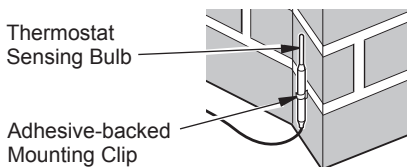
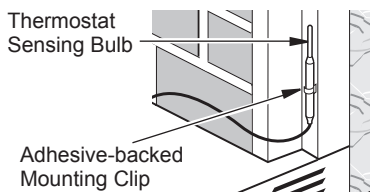

Figure 45 - Locating Thermostat Sensing Bulb on Masonry Fireplace
Figure 46 - Locating Thermostat Sensing Bulb on Factory-built Metal Fireplace
3. The thermostat sensing bulb may be located to the lower right front side of fireplace. Determine location of sensing bulb, but do not mount sensing bulb until step 4. If you have a masonry fireplace, see Figure 45 for location. If you have a factory-built metal fireplace, see Figure 46 for location.